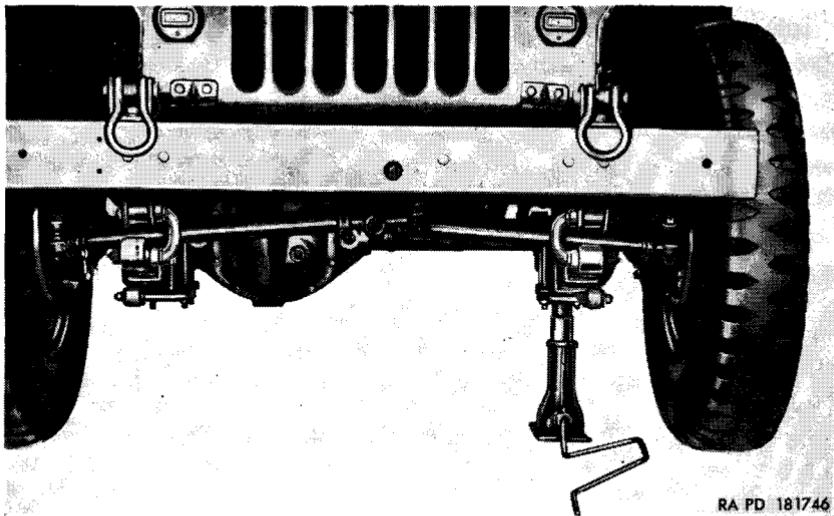
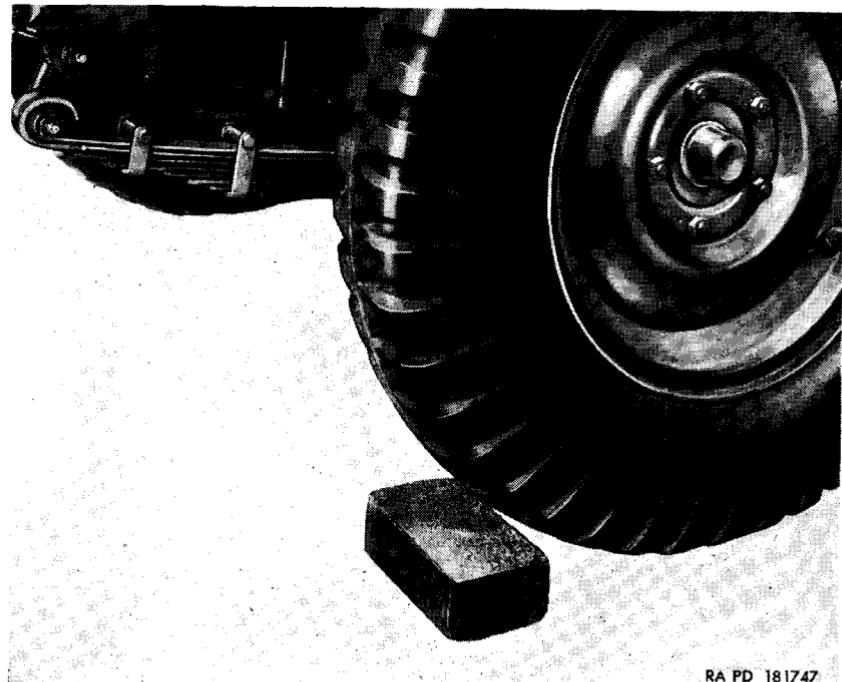

Figure 124. Correct position of jack for wheel removal.
Figure 125. Wheel blocked to prevent vehicle moving during wheel removal.
a. *Removal*. Loosen five hub nuts (left side vehicle, clockwise—right side, counterclockwise). Jack up vehicle until tire clears the ground (fig. 124). Block other wheels to prevent vehicle from rolling (fig. 125). Remove five hub nuts and remove wheel.